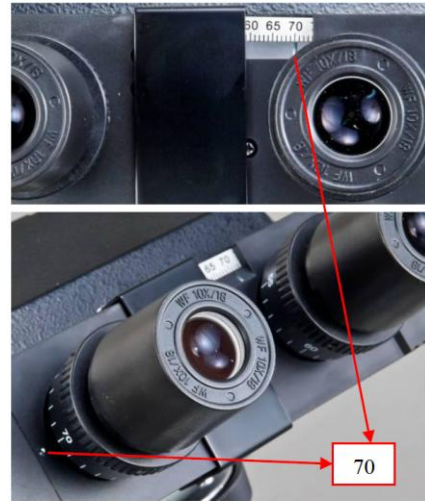

Fig. 4
- 2) Rotate the dioptre ring on the right eyepiece tube until its numerical value is the same as your interpupillary distance, for example, 70 in the right figure (See Fig. 4).